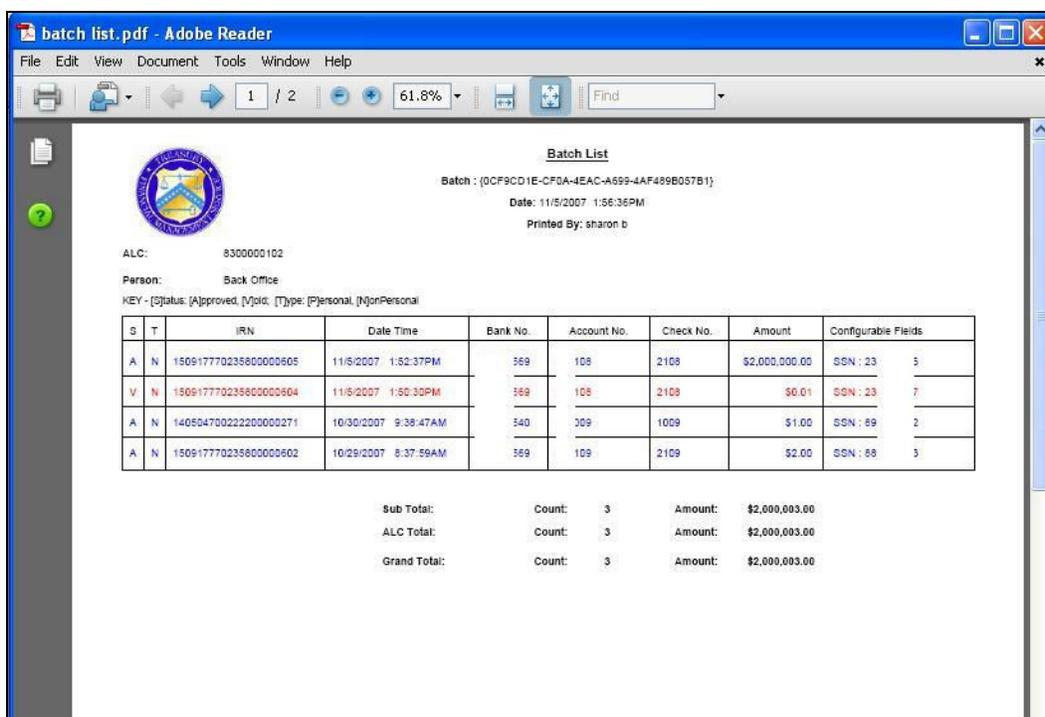

Figure 6.59.3
5. Type a file name in the 'File Name' field and click 'Save'. The file can now be opened in the appropriate application. Below is an example of a batch list report saved as a .pdf (Figure 6.59.3).